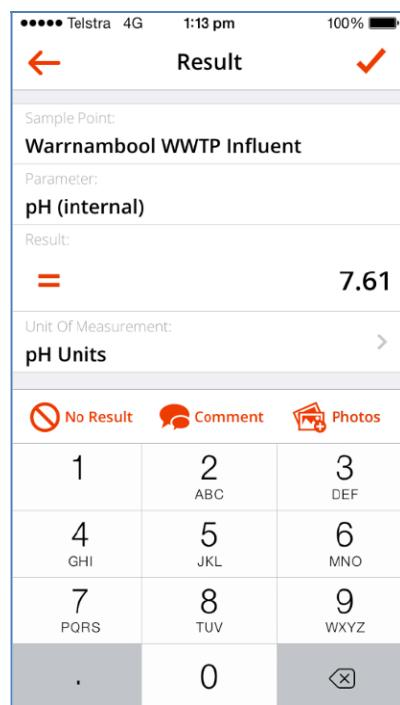

Figure 11: The results entry screen for the iPhone
8. **iPhone/ iPad App.** An App has recently been created which allows direct data entry. Data can be entered using the App (Figure 11) even if there is no phone range, the data will automatically be imported into the system when the phone comes back in range.